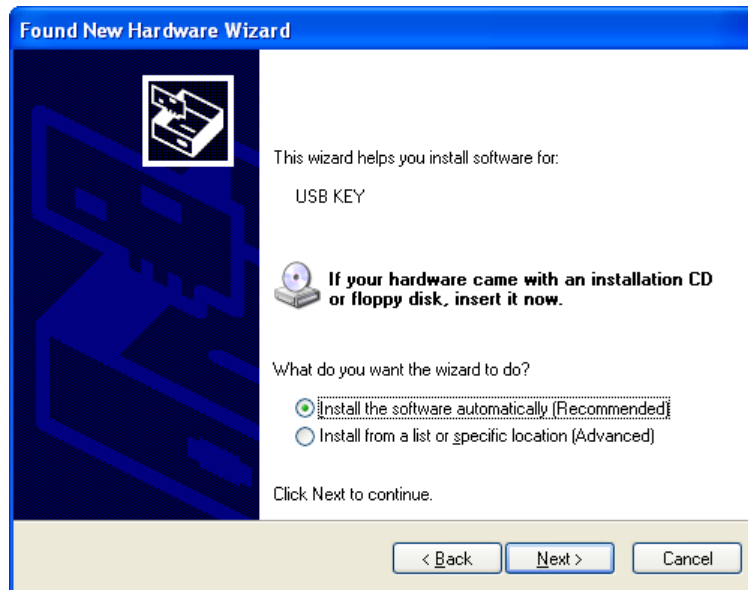

Figure 22
3. The next window in the Security Key Setup informs the user that the wizard will help install the necessary software for USB KEY. Refer to Figure 22. In this window make sure the circle beside **Install the software automatically (Recommended)** has a black dot. With the Black Dot in place in the desired location, select the **Next** pushbutton to continue with the Security Key Installation.